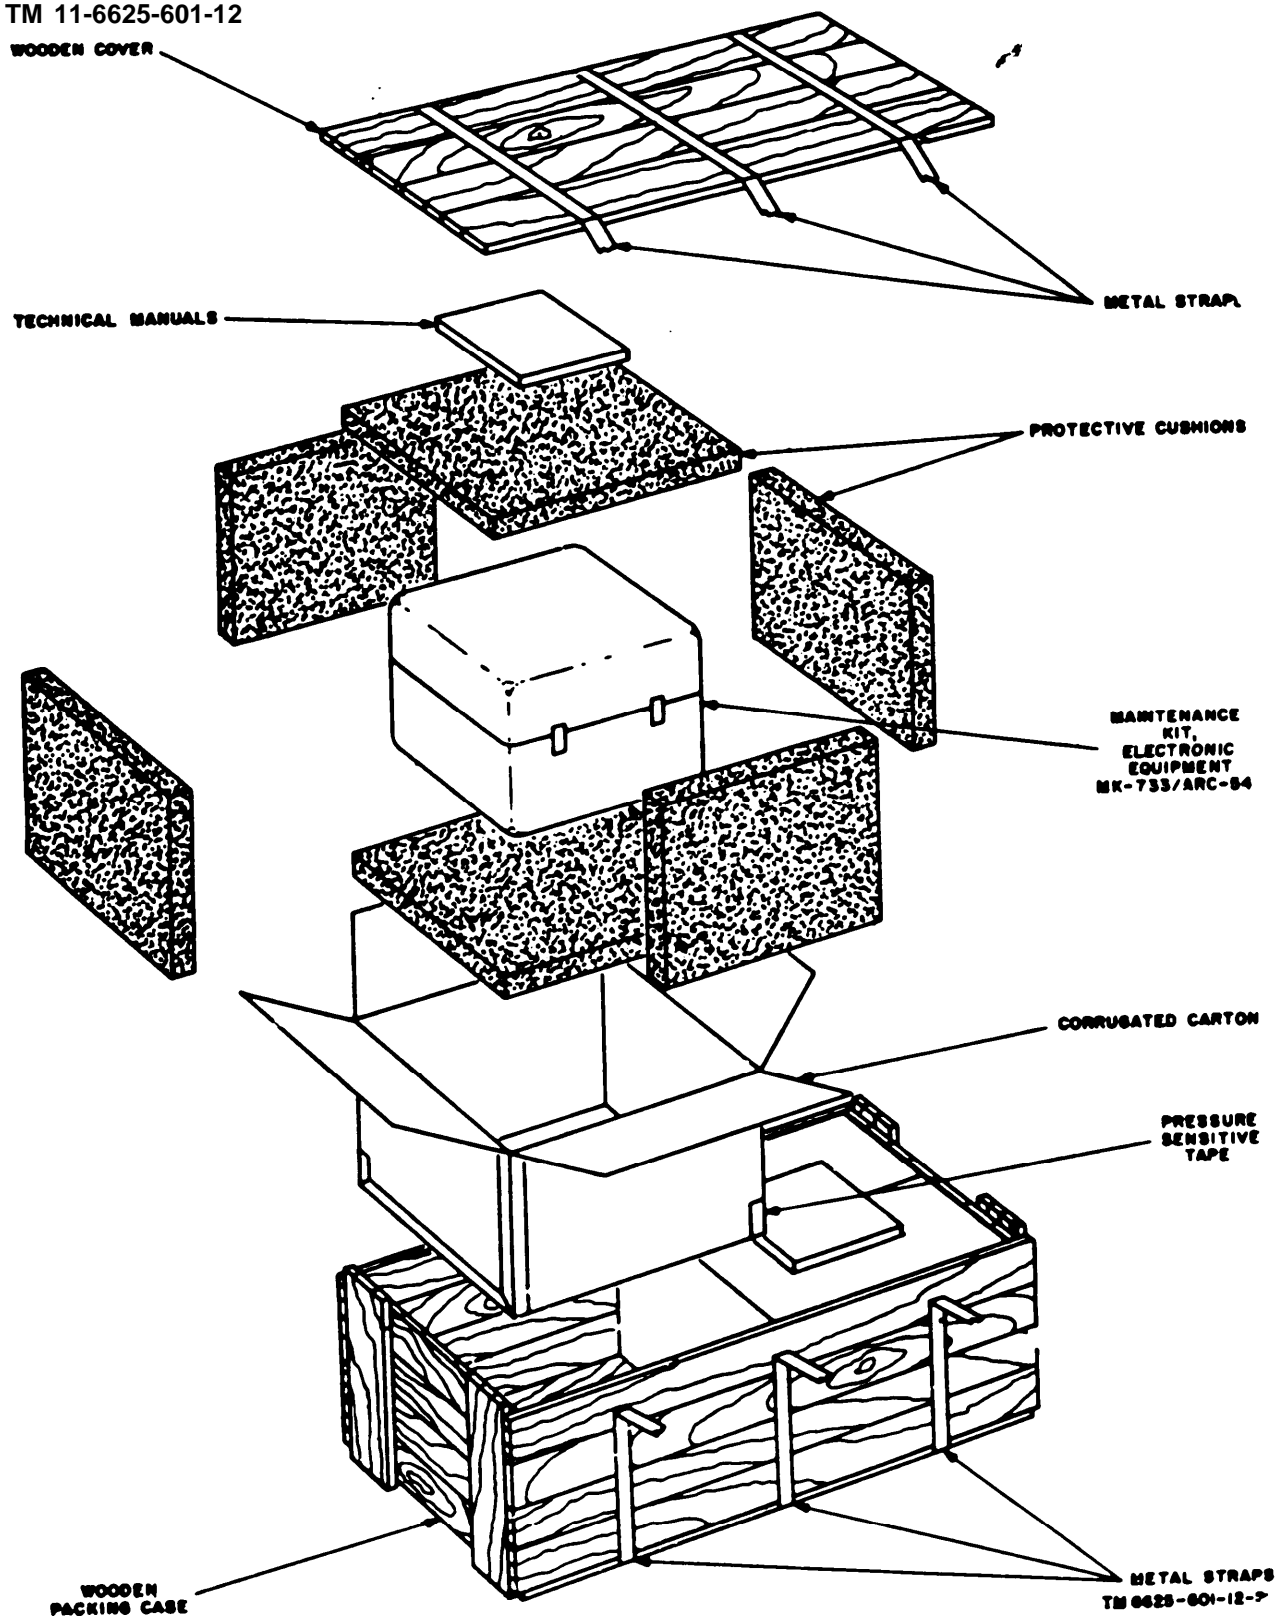

Figure 2-1. Packaging of Maintenance Kit, Electronic Equipment MK-733/ARC-54.
a. *Packaging Data.* When packed for shipment, the MK-733/ARC-54 is inclosed in a protective cushion and placed in a corrugated carton. The corrugated carton is then placed in a wooden packing case. Two MK-733/ARC-54's are packed in the wooden packing case. A typical wooden packing case and its contents are shown in figure 2-1. The outside dimensions of the wooden packing case are 53 1/2 inches wide, 21 6/8 inches deep, and 23 3/4 inches high. The total weight of the wooden packing case and its contents is 205 pounds, and the volume is approximately 15.8 cubic feet.
b. *Removing Contents* (fig. 2-1).
- (1) Cut and fold back the metal straps.